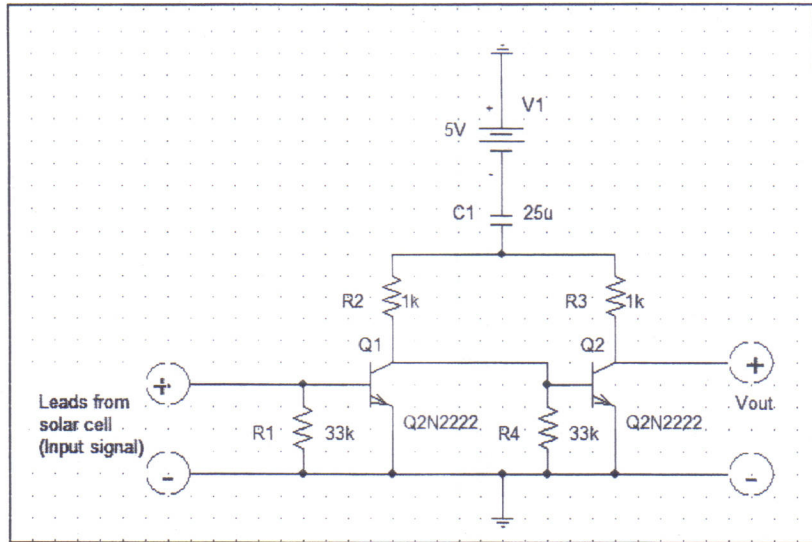

Figure 3: Receiver Circuit
- Figure 3 is a schematic of the Receiving circuit. A capacitor was placed in line with the 5V DC power supply to filter out noise and ensure a clean output signal. Our circuit was biased based on the assumption that the laser communication would be taking place on a solar panel that is not charging from sunlight. In order to simulate this we placed a piece of cardboard over the solar cell with a small hole for the laser to shine through. Our receiver configuration will not support communication while a solar cell is in contact with sunlight because it will saturate the transistors.